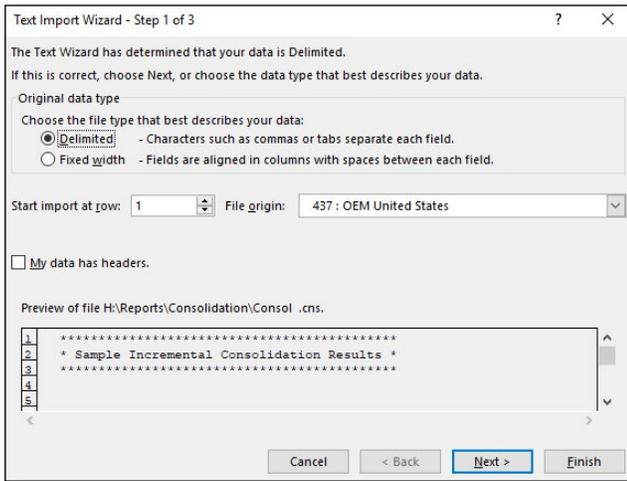

Figure 14: Text Import Wizard Step 1
4. The **Text Import Wizard** dialog box (Figure 14) will pop up. Select **Delimited** then click next.